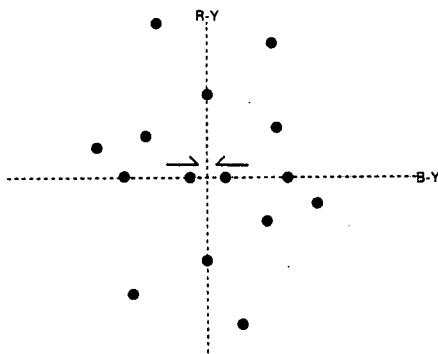

Fig. 7. Vector Pattern of G-card Signal
- (1) Tune receiver into G-card signal.
- (2) Turn AFT on and confirm the AFT operation.
- (3) Press "OPTIMUM" button.
- (4) Set the oscilloscope to the X-Y mode and connect TP46B to the horizontal axis(X) and TP46R to the vertical axis(Y).
- (5) Adjust TRANS DL OUT control L603 so that outward double dots draw together.
- (6) Adjust LEVEL-ADJ control VR601 so that two points on the Xaxis shall be merged. (refer to Fig. 7)